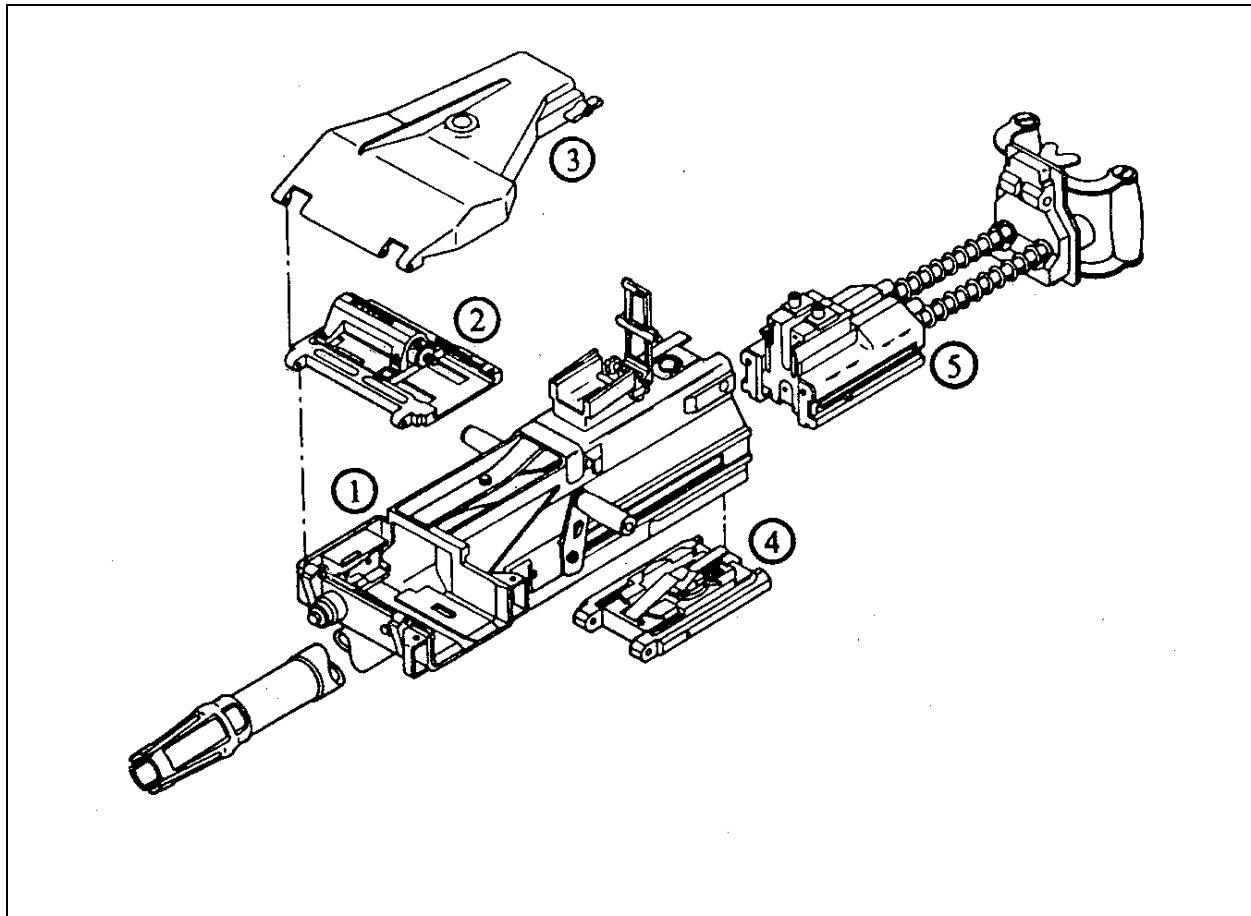

Figure 4. Five major assemblies
13. **Five Major Assemblies** (See Figure 4.)
a. Receiver assembly (1)
b. Feed slide assembly and feed tray (2)
c. Top cover assembly (3)
d. Sear assembly (4)